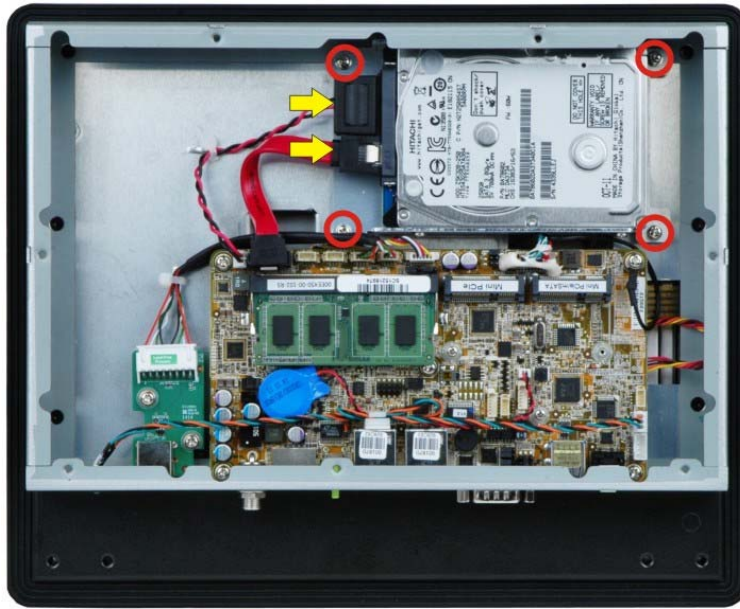

Figure 3-7: PPC-F10B-BT HDD Installation
Step 5: Reinstall the HDD bracket into the PPC-F10B-BT and fasten the four hard drive bracket screws (**Figure 3-7**)